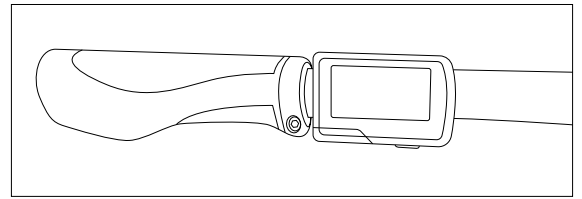

Figure 4.37 Grip Pro display assembly
1. Mount the display to the handlebars (Fig. 4.37 to 4.41).